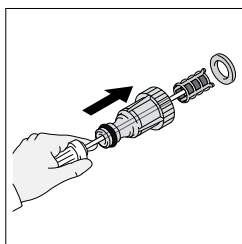

Fig. 14
- The screen inside the clear adapter should be cleaned periodically. Insert a pen or pencil in small hole at the end of the adapter. The screen filter will slide out (Fig.14). Rinse it with clean water, and then place it back in the adapter.